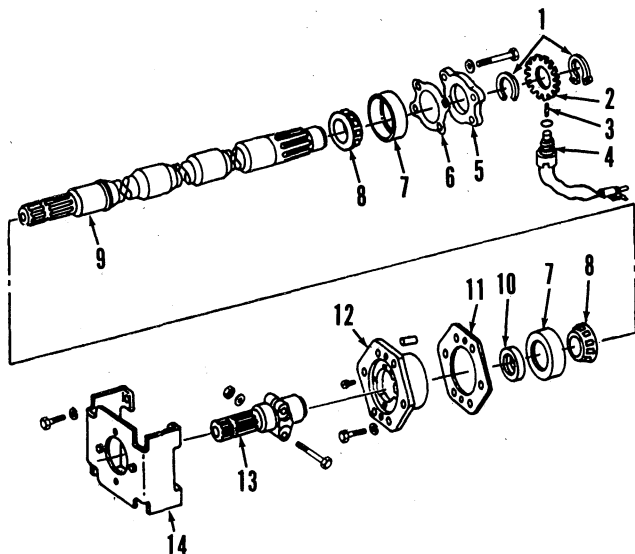

Fig. 213—Exploded view of single-speed pto output shaft and associated parts used on Models 4650 and 4850 equipped with Power Shift transmission.
198. OUTPUT SHAFT. To remove output shaft assembly, first drain transmission oil. Remove cap screws securing bearing retainer (12—Fig. 213) to transmission case, then withdraw retainer and shaft (9) from case.
If equipped with sensor pickup disc (2—Fig. 213), install pin (3) into hole in shaft so it protrudes 0.236 inch (6 mm). Install disc with slot over the pin. Install front snap ring with gap in line with pin. Reinstall shaft and retainer and tighten cap screws to 85 ft.-lbs. (115 N·m).